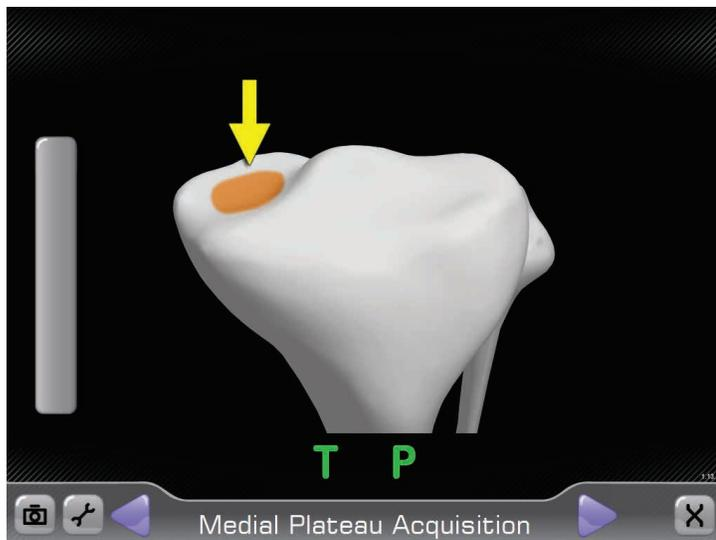

Figure 37
The Medial Plateau Acquisition screen is displayed (Figure 37). Position the tip of the Probe Tracker (P) on medial tibial plateau and press the Forward button. Ensure the tip of the tracker maintains contact with the plateau and trace a patch that captures the lowest point on the medial tibia plateau.